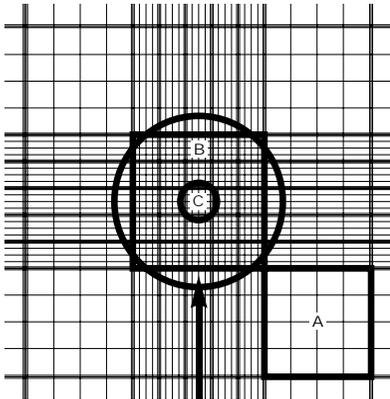

Fig. 1. Hemocytometer grid.
A hemocytometer is usually divided into nine large squares (Figure 1). Each large square is  $1 \times 10^{-4} \text{ cm}^2$  or  $0.1 \text{ mm}^3$ , two such squares are shown the figure with darkened borders (A&B). The large circle around the center square (B) represents your field of view at 100x power (10x objective lens, 10x eye piece). The center square is subdivided into 25 smaller squares. The smaller circle in the center square (C) represents your field of view at 400x power (40x objective lens, 10x eye piece). These 25 center squares are further divided into 16 squares.